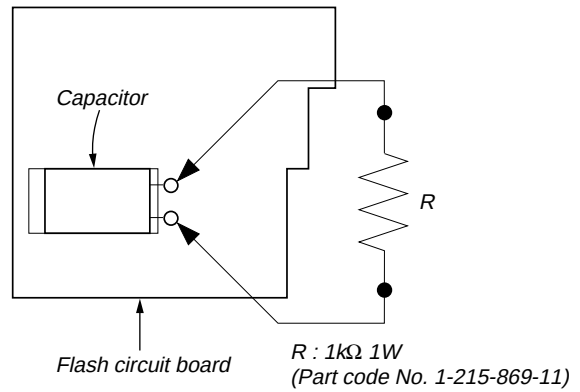

Fig. 5-1-6
- 2. Fabricate the discharging jig as shown in Fig. 5-1-6 locally by yourself. Connect the discharging jig to the positive (+) and negative (-) terminal of the flash voltage charge capacitor. Allow ten seconds to discharge the voltage.